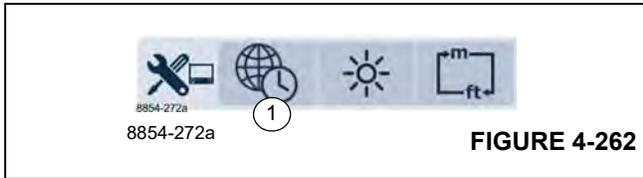

FIGURE 4-262
The Display Settings Menu Group (Figure 4-262) includes the following function icons:
Select the Time Set Icon (1), (Figure 4-262), under the Display Settings Menu Group, to show the Time Set function screen.